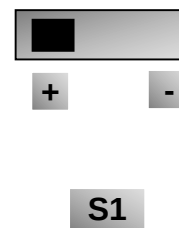

Figure 8-6
- vii. There is a toggle switch S1 at the side of control terminals, refer to Fig 8-6. S1 is used to select the voltage input range of AI1 channel. When turning S1 to “+”, the input range is 0~10V, when turning S1 to “-”, the input range is -10~10V.